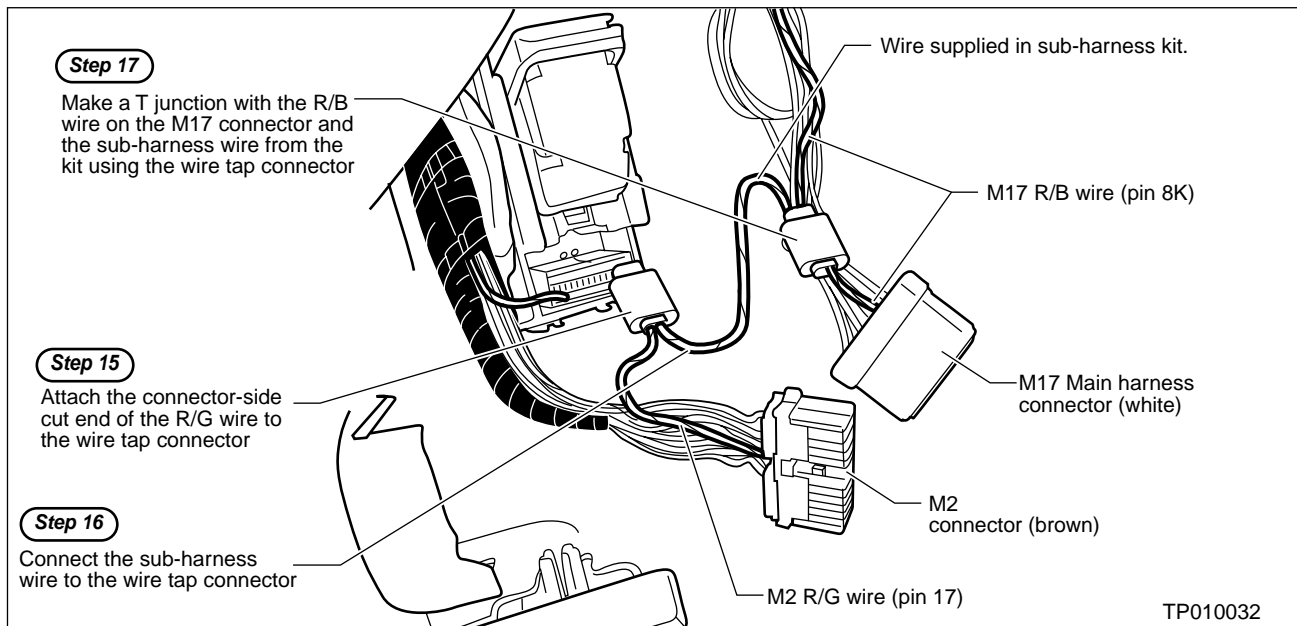

Figure 10
15. Attach the connector-side cut end of the R/G wire to one of the wire tap connectors provided in the sub-harness kit (see Figure 10).
16. Connect one end of the sub-harness wire (provided in the sub-harness kit) to the wire tap connector attached to the R/G wire in step 15 (see Figure 10).
17. Make a T junction with the R/B wire located on the M17 connector and the other end of the sub-harness wire using the other wire tap connector provided in the sub-harness kit (see Figure 10).